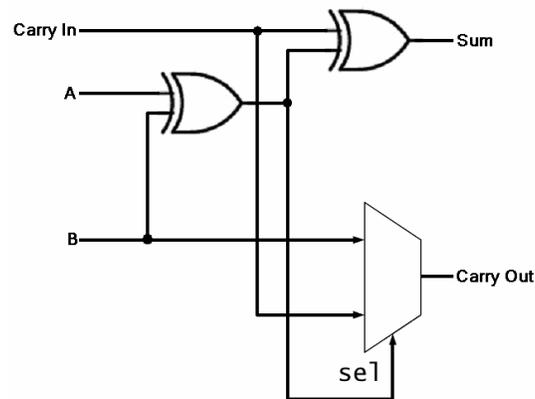

Figure 2: Full Adder using two XOR gates and a multiplexer.
- 2) Design the full-adder shown in figure 2. When creating the multiplexer, DO NOT USE AN LPM! Create the multiplexer by taking the 4-to-1 multiplexer code given in lab 1, and altering it to be a 2-to-1 multiplexer.